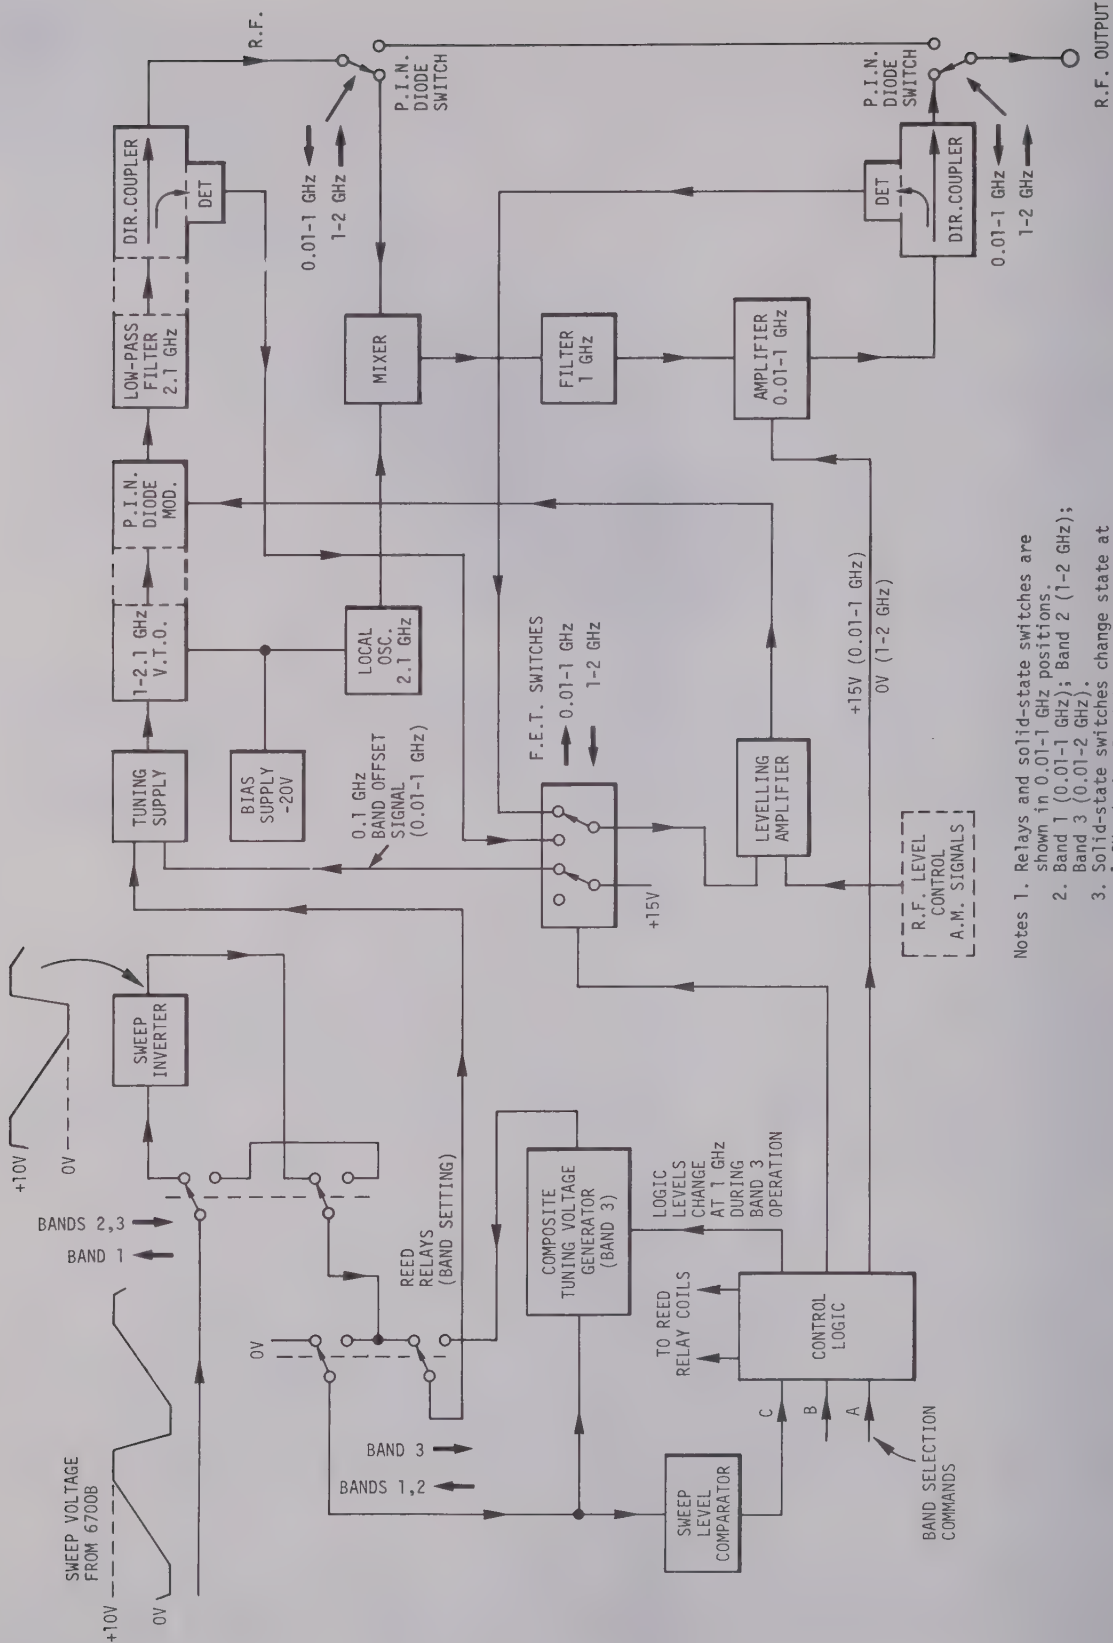

Fig. 2 Block diagram of r.f. unit type 6700B
7. In the block diagram of Fig. 2, switches are shown in the positions relating to 10 MHz - 1 GHz operation. The local oscillator gives the high level 2.1 GHz signal to the mixer whereas that from the 2.09 - 1.1 GHz v.t.o. is attenuated to a low level. Consequently, the output level from the mixer is proportional to that of the v.t.o. which is controlled by a built-in p.i.n. diode modulator. Immediately following the v.t.o. and its modulator is a 2.1 GHz low-pass filter to reduce harmonic output and thereby reduce undesirable mixing products which appear as in-band spurious signals in the final output. A 1 GHz low-pass filter reduces direct mixer feedthrough from each of the oscillators and also reduces out-of-band spurious mixing products.